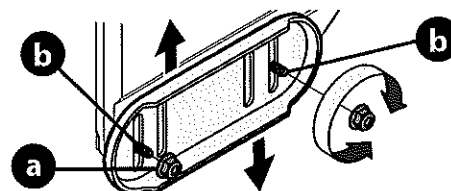

Figure 47
1. Loosen four hex nuts (a) (two on each side) and carriage bolts (b). Move skid shoes to desired position (Figure 47).
**NOTE:** The skid shoes on your snow blower may look slightly different (and have different hardware) than ones shown in Figure 47.